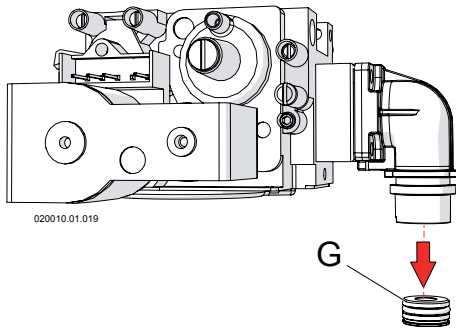

Figure 13-5 - Gas orifice
- 7.- Replace orifice "G" of Figure 13-5, for the correct one for type of gas used. Verify that the stamping on the orifice matches the Figure 13-7;